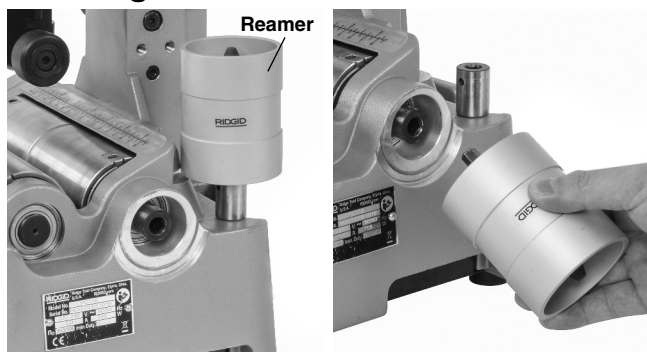

Figure 11 – Installing Reamer
2. Remove the reamer from the storage position and mount in use position as shown in *Figure 11*. Confirm that the reamer is securely mounted